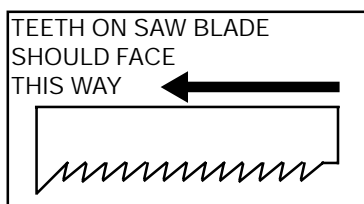

figure 7
3. Check blade to make sure that the cutting edge of the teeth point left when you face the front of the machine (see decal, figure 7). The blade is mounted to the lowest dowel pin located at the end of the bow. To tension the blade, tighten the two blade clamp knobs, hand tight. Tighten the tension knob until taut (figure 8). Then tighten the blade clamp knobs, left side and right side of the bow (figure 9).